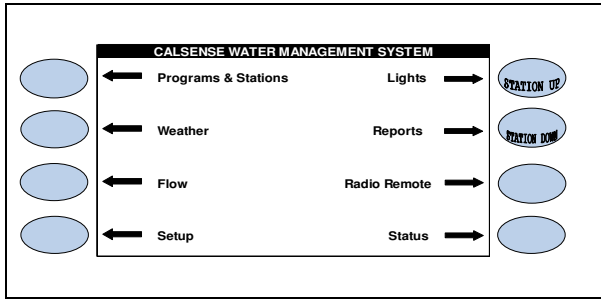

Figure 1
2. Press the **WEATHER** menu key (Figure 1).
23.  Press the **MAIN MENU** key to return to the MAIN MENU screen (Figure 1).